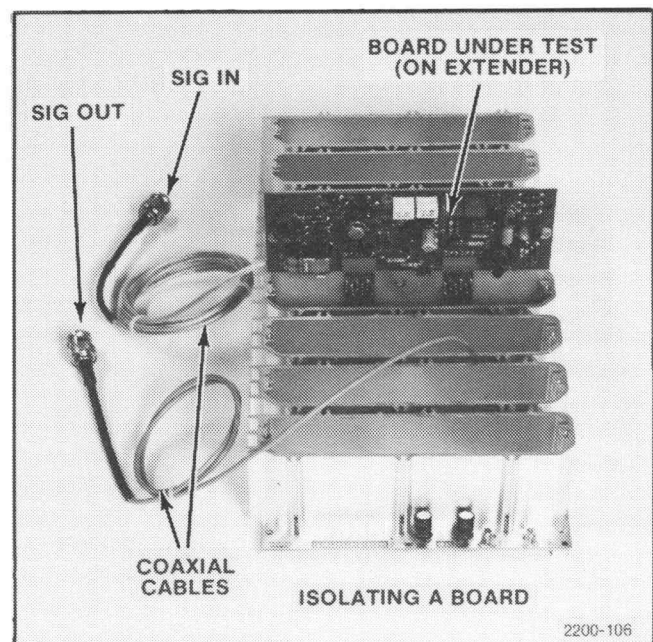

Fig. 5-5. Troubleshooting Shield Mounted Boards.
**Troubleshooting Shield-Mounted Boards (see Fig. 5-5).** The extender board (included in the standard accessories kit) allows the shield-mounted boards to be extended out of the shield for troubleshooting or calibration. Extra pins are added to the interface boards where necessary to provide grounds for signal connections. To look at the output of a stage, remove the following board and connect a bnc-to-square pin adapter cable to the input pins. This will give the output of the stage under test. To isolate a board or stage, remove both the input and output stages. A signal can be fed and the output measured for this stage only.